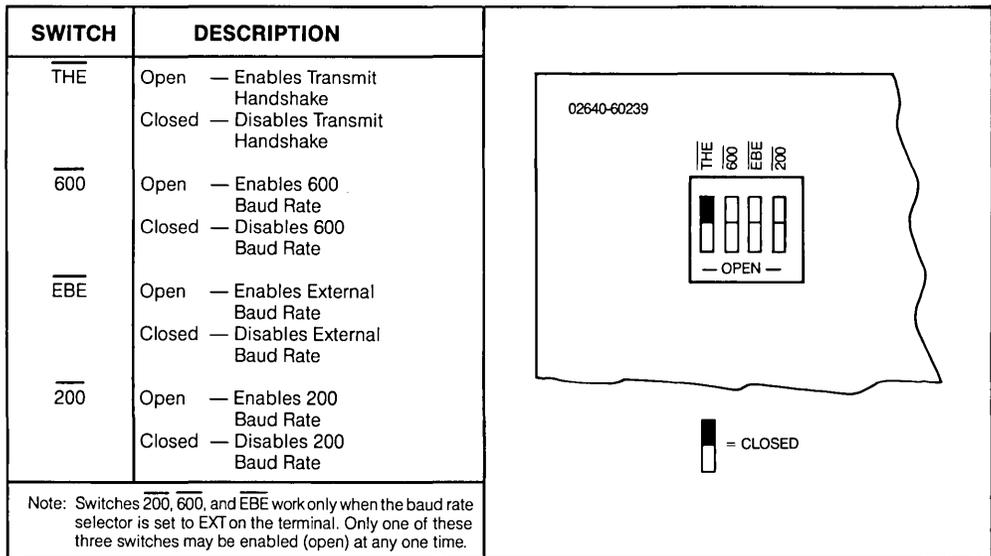

Figure 3-19. 13260A Strapping Options on Later PCAs (02640-60239)
**ACCESSORY 13260A.** The Keyboard Interface PCA is the only PCA containing configuration means for Accessory 13260A with earlier PCAs (02640-60086). However, on later PCAs (02640-60239), strapping must be configured (see figure 3-19).
**PROCEDURE**..... Figure 3-20 supplies the strapping procedures for Accessory 13260A for earlier PCAs (02640-60086) and both PCAs (02640-60089 and 02640-60143) of Accessory 13260B in flowchart form. Although PCA 02640-60089 is not mentioned in the flowchart, the flowchart is applicable to it also. To use the flowchart with PCA 02640-60089, ignore reference to any switch not contained on the PCA. Use figure 3-19 to configure 13260A with later version PCAs (02640-60239).